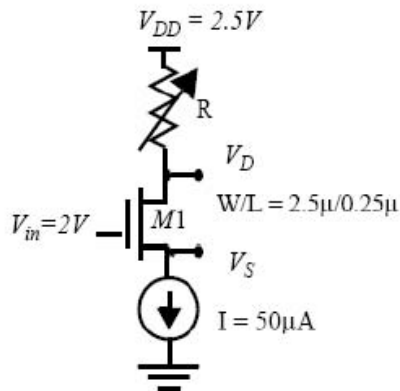

Figure 0.4 Test configuration for the NMOS device.
1. [chap. 3] An NMOS device is plugged into the test configuration shown below in Figure 0.4. The input $V_{in} = 2V$. The current source draws a constant current of $50 \mu A$. R is a variable resistor that can assume values between $10k\Omega$ and $30 k\Omega$. Transistor M1 experiences short channel effects and has following transistor parameters: $k' = 120 \cdot 10^{-6} V/A^2$, $V_T = 0.3$, and $V_{DSAT} = 0.6V$. The transistor has a $W/L = 2.5\mu/0.25\mu$. For simplicity body effect and channel length modulation can be neglected. i.e $\lambda=0$, $\gamma=0$.